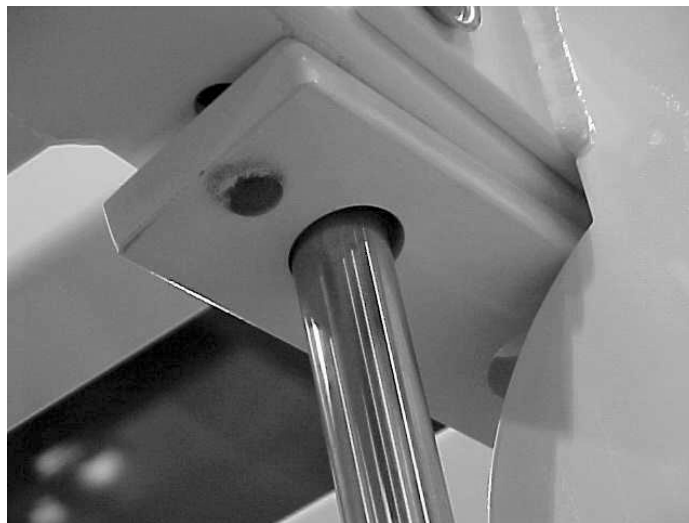

Figure 11. Bolt on the top plate.
- F. With the top plate on the guide rods, bolt on the top plate to the top of the cells as shown in Figure 11 using a 9/16” socket and combination wrench and the 3” bolts (with cap washers) that were previously inserted.